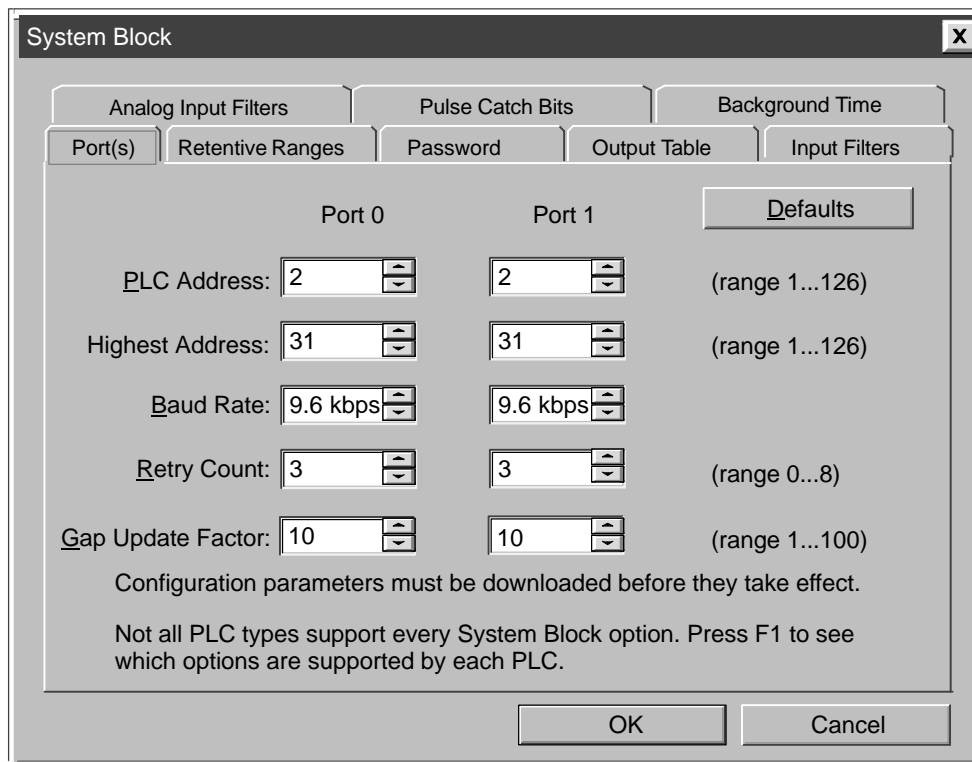

Figure 3-5 Changing the Communications Parameters
2. The System Block dialog box appears. Click on the Port(s) tab (see Figure 3-5). By default, the station address is 2, and the baud rate is 9.6 kbaud.